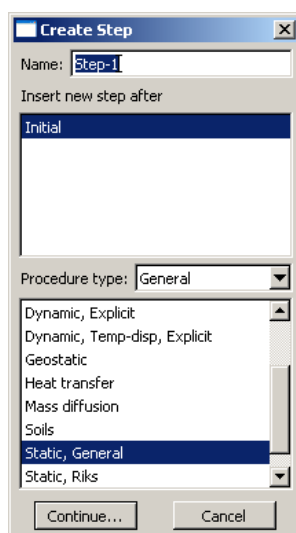
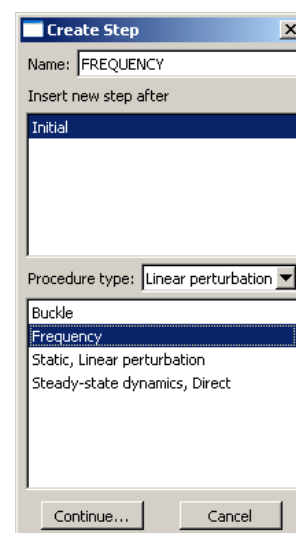

Figure 20a. Create Step Dialog Box
Figure 20b. Create Step Dialog Box (FREQ)
- In the model tree, double click the **Steps** icon. The **Create Step** dialog box will appear (Figure 20a). Create a **Name:** for the step called **FREQUENCY**. Under **Procedure type** choose **Linear perturbation, Frequency**. The **Create Step** dialog box should look identical to Figure 20b.